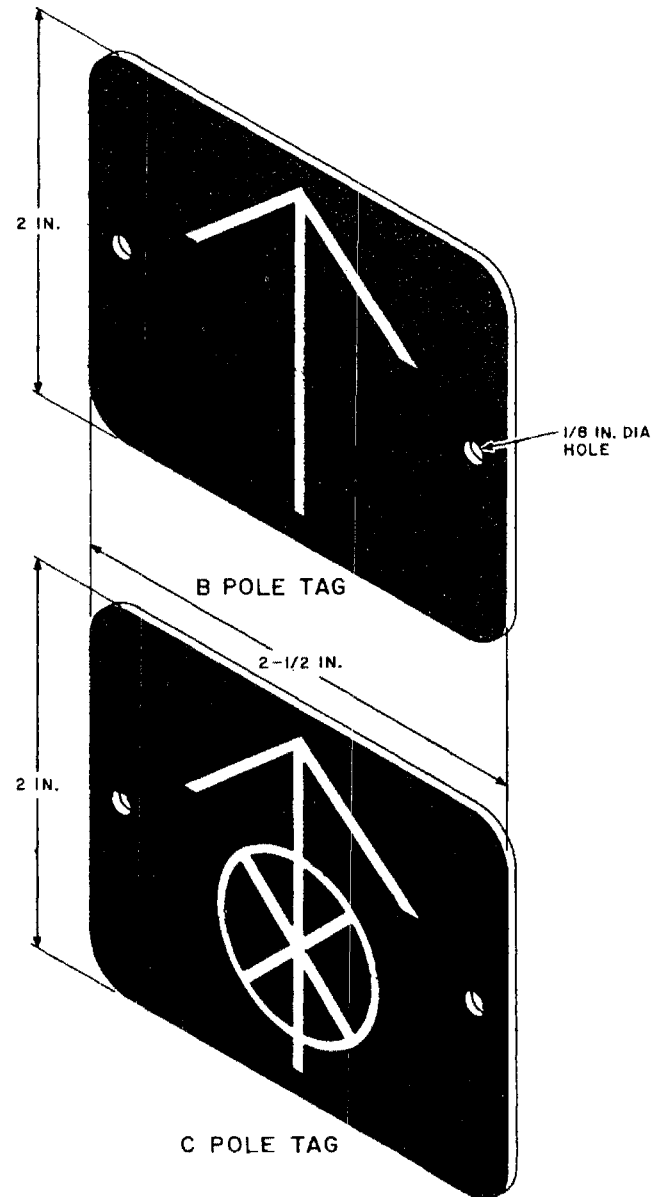

Fig. 2 — B and C Pole Tags
8.01 All poles which are recommended for replacement on account of deterioration or mechanical damage should be plainly marked to indicate that they are defective. Because of the transfer of personnel between Operating Companies during storm breaks or other restoration work, the method for marking poles should be uniform throughout the Bell System. Two aluminum tags, designated as B and C Pole Tags have been standardized for this purpose (see Fig. 2).